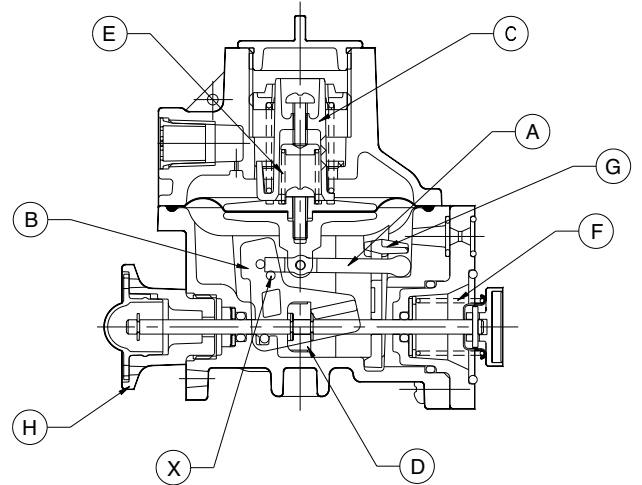

Figure 1 - Latched position
At normal working pressures the internal mechanism is 'latched' as shown in figure 1. The lever (A) and latch (B) are engaged with the diaphragm in rest position touching the base of the opss spring holder (C). The valve and its spindle are held open by the latch holding the tripoff bushing (D) attached to the spindle.
(Refer to Figure 1, Page 3)